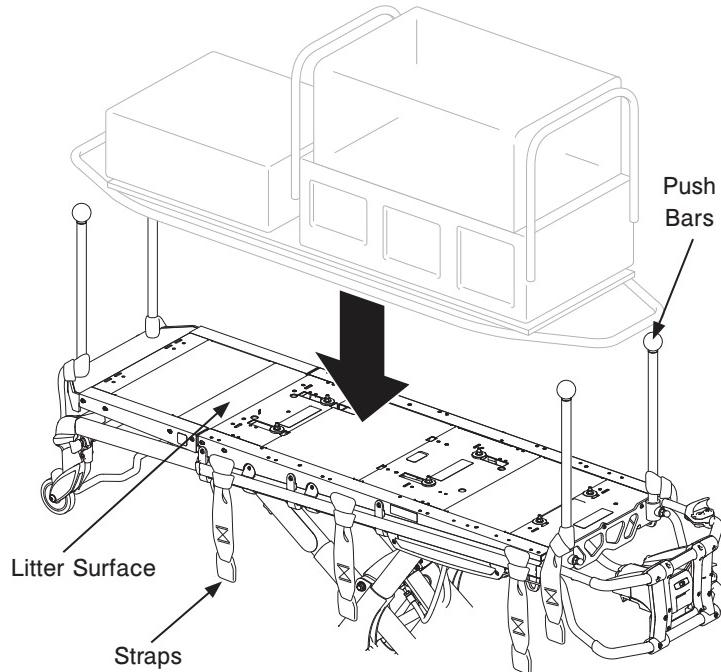

Figure 2
- Secure the Air Sled to the litter surface using the straps, (not supplied) (Figure 2).